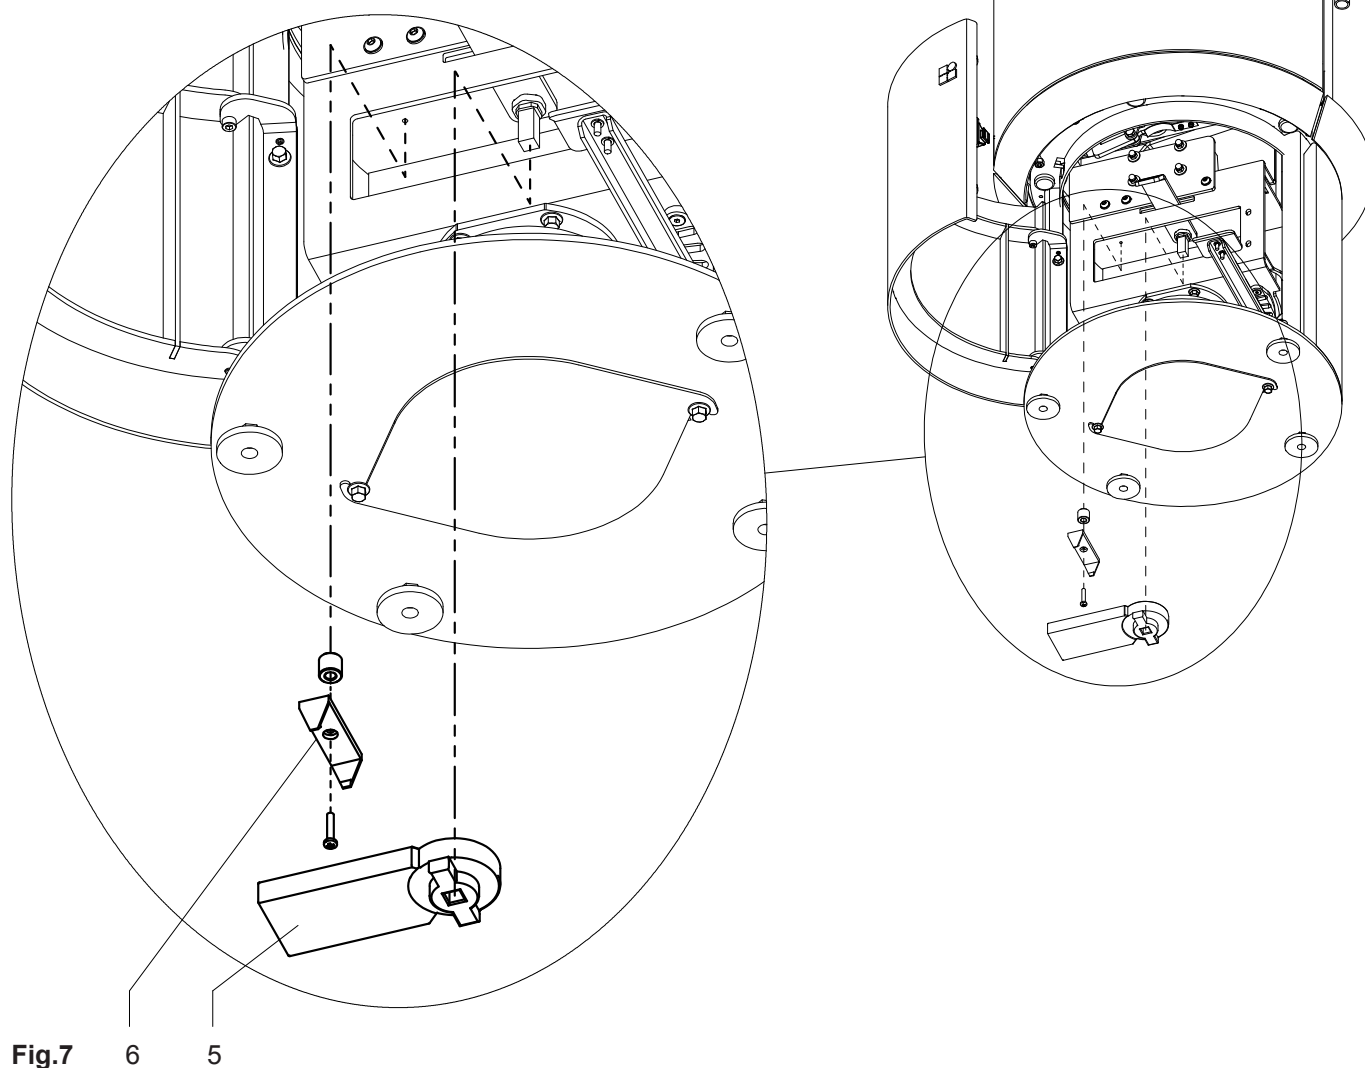

Fig.7 6 5
- Tighten the motor retaining clip (6) with the spacer sleeve to the motor console. Push the servo-motor (5) onto the rotation axis of the air regulator lever and snap into the motor retaining clip (Fig.7).